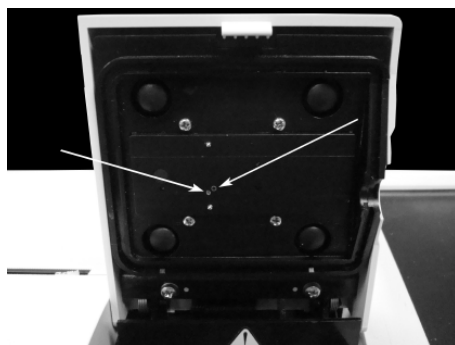

Fig. 8-46 Locate Optical Channels
1. Open the SMC cover and locate the two small optical channels pictured below (Fig. 8-46).